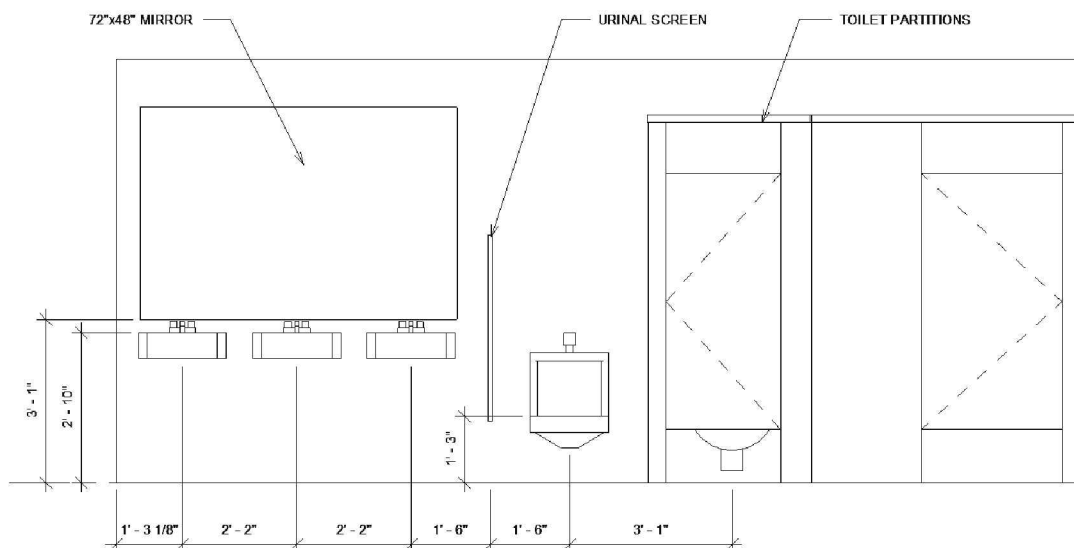

FIGURE 11-1.16 Updated interior elevation
45. While still in the interior elevation view, place a **72" x 48" Mirror** on the wall above the sinks. Use the *Align* tool to align the mirror with the middle sink (Figure 11-1.16).
47. Add the notes and dimensions per Figure 11-1.16. Adjust the heights and locations of the fixtures and components as required.